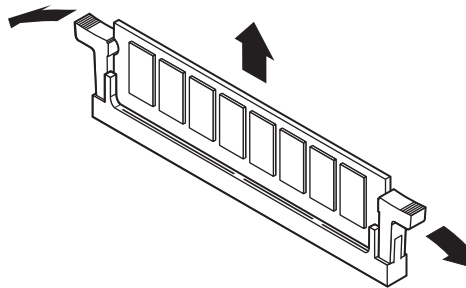

Figure 18: Releasing the DIMM Socket Clamps
1. Gently push out the plastic socket clamps on each end of the DIMM. The DIMM should pop up slightly from the socket (see Figure 18).